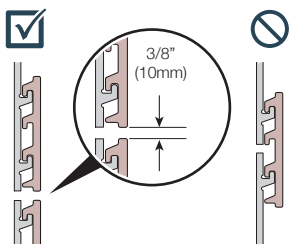

FIG. H5
- Spacing between SLAT profiles in the same plane must be 3/8" (10mm) to maintain a 3/8" open joint size between panels (FIG. H5). Slats must also be attached to the same SLAT Profile.